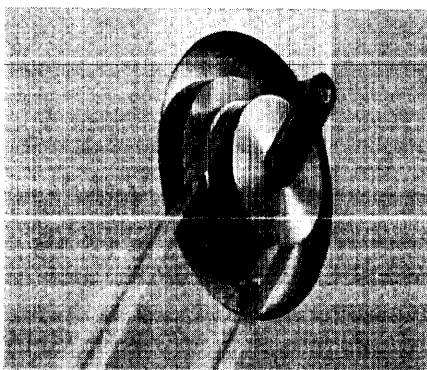

Figure 4-8 Disc-spindle pulley with grounding brush
- Loosen the binding-head screw which attaches the ground-brush contact arm to the contact spacer. (See Figure 4-8)
- b. Take off the lower flange on the disc-spindle pulley by removing the spindle-pulley screw which houses the grounding-brush and spring. (Figure 4-8) The belt may now be removed. Clean the pulley with organic solvent such as Methyl Ethyl Ketone (MEK) or detergent and water.